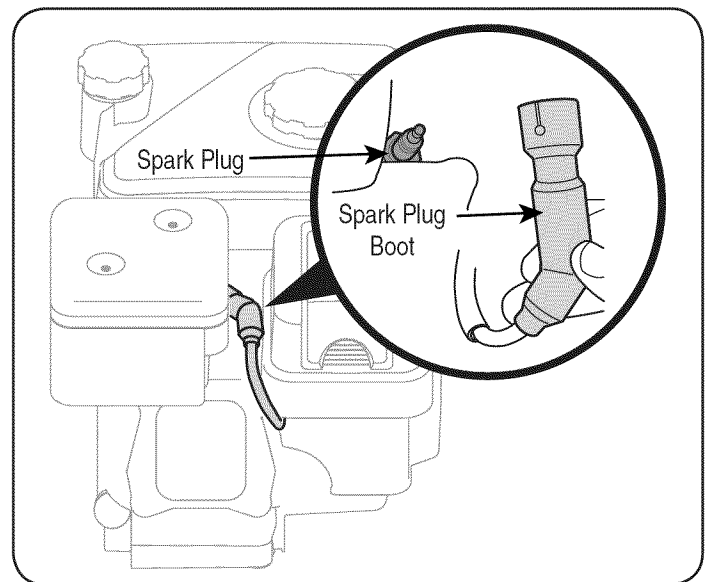

Figure 23
1. Carefully disconnect the spark plug wire and keep it away from the spark plug. Refer to Figure 23 for spark plug location.